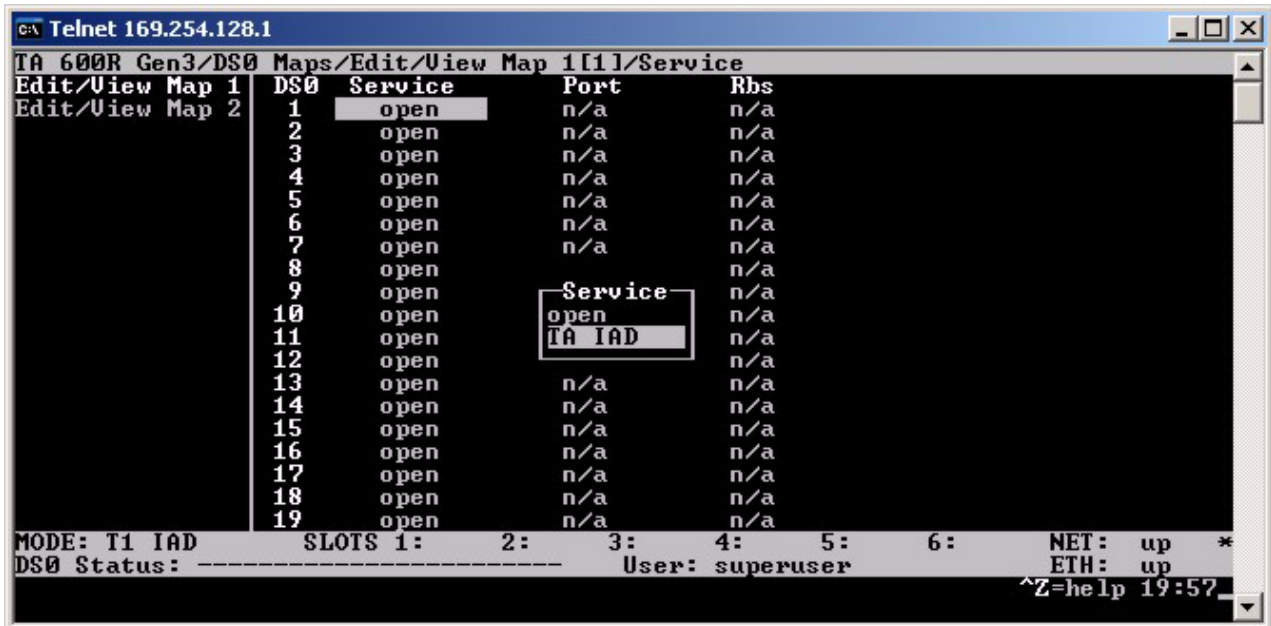

Figure 99: Setting the service
6. Set the Service to **TA IAD** as shown in Figure 99.